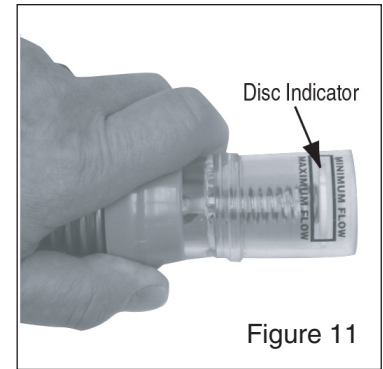

Figure 11
4. Turn the regulator valve adjustment knob clockwise to increase flow or counterclockwise to decrease flow, until the disc indicator in the flow gauge settles between “Maximum” and “Minimum” flow. See **Figure 11**.